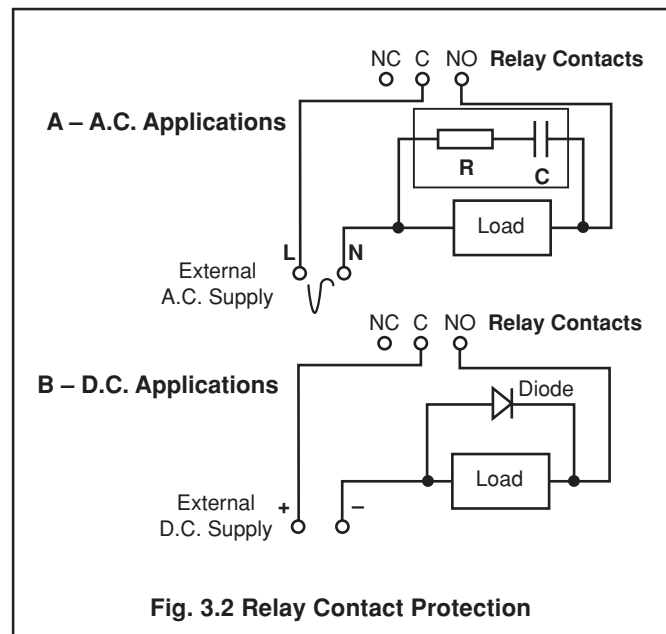

Fig. 3.2 Relay Contact Protection
3.2.1 Relay Contact Protection and Interference Suppression – Fig. 3.2
If the relays are used to switch loads on and off, the relay contacts can become eroded due to arcing. Arcing also generates radio frequency interference (RFI) which can result in instrument malfunction and incorrect readings. To minimize the effects of RFI, arc suppression components are required; resistor/capacitor networks for AC applications or diodes for DC applications. These components can be connected either across the load or directly across the relay contacts. On 7330 instruments the RFI components must be fitted to the relay terminal block along with the supply and load wires – see Fig. 3.2.